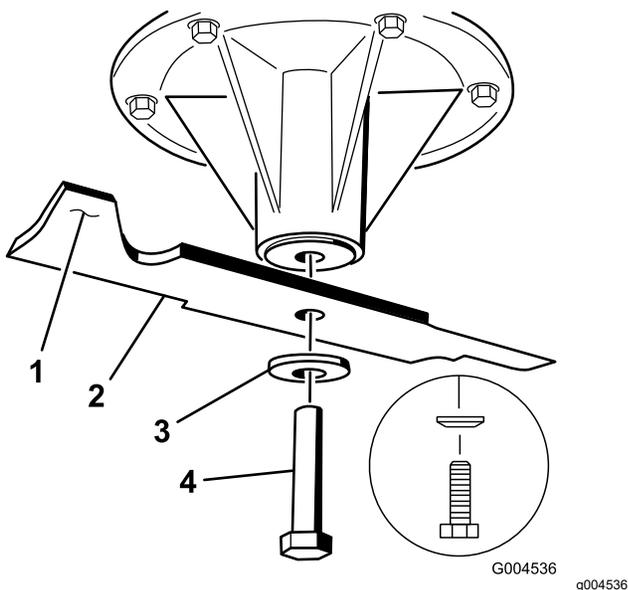

Figure 109
2. Remove the blade bolt, the curved washer, and the blade from the spindle shaft (Figure 109).